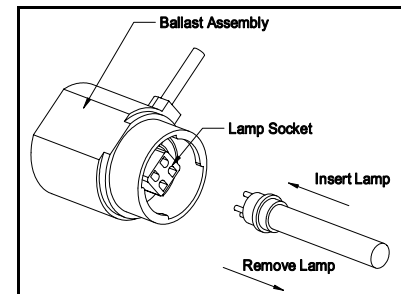

Figure 4
7. Install bulb into ballast. Do not handle the bulb with bare hands. Oils on the hands tend to shorten bulb intensity. (See Figure 4)
- Remove the bulb from the bulb socket. (See Figure 4)